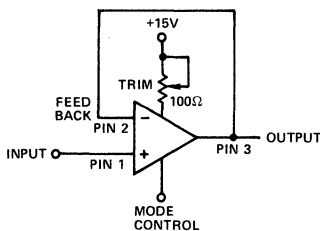

Figure 2.
1. Figure 2 shows feedback connections to the SHA-2A for the unity gain follower mode. Output (pin #3) is connected to feedback (or - input, pin #2). Input signal is applied to pin #1.